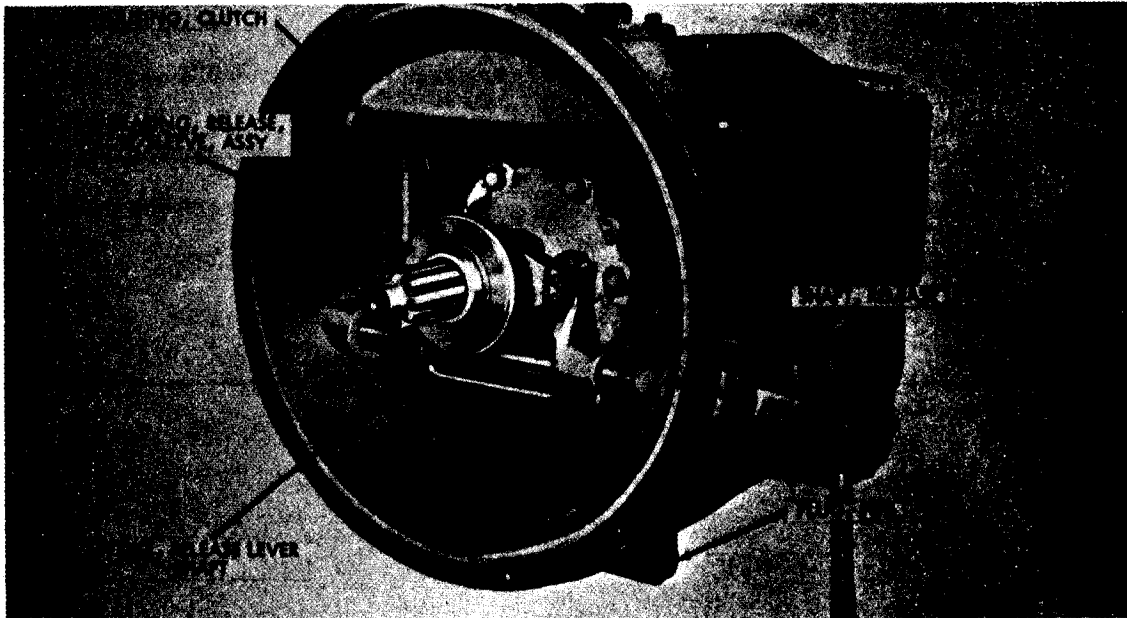

Figure 238. Transmission assembly - left front view
a. The transmissions (figs. 238 and 239) are manually shifted, synchromesh, selective-gear type, with five forward speeds and one reverse speed. Fifth forward speed is direct drive on the 6352 transmission (gasoline models) and an overdrive gear on the 6453 transmission (diesel models). Refer to figures 240 and 241 for power flow charts. A power takeoff, mounted on right side of transmission, transmits power to the drum winch and power hoist on vehicles so equipped. Vehicles on which power takeoff is not required have the opening in transmission sealed with a gasket
pipe plug (fig. 238) and noting if water flows from the opening. If there is water, drain and refill transmission (LO 9-2320-211-12). If no water is evident, install pipe (drain) plug promptly to prevent further loss of lubricant.